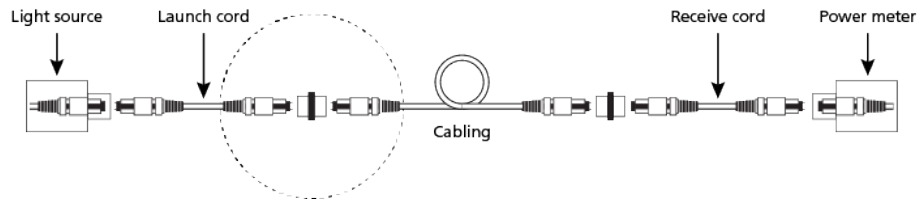

Figure 10. Measure attenuation of cabling – mismatch
3. Attach the launch cord and receive cord to the cabling under test (see Figure 10). Notice that a pinned to pinned connection mismatch now exists. What to